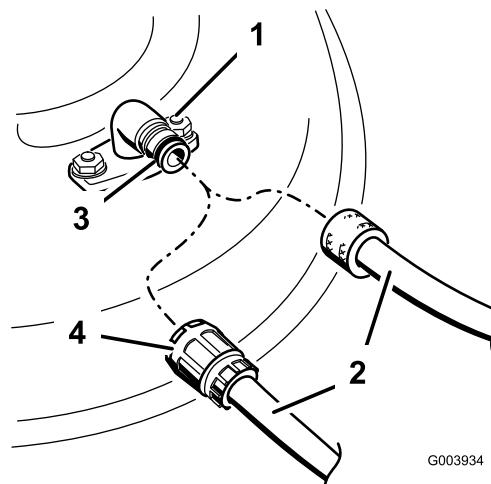

Figure 47
- Attach a hose to the washout fitting, and turn the water on high (Figure 47).